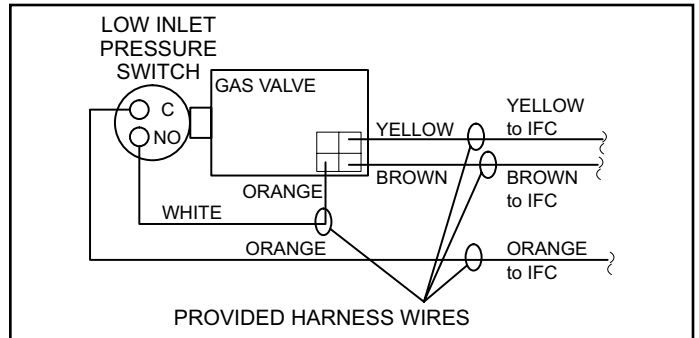

Figure 13. Low Inlet Pressure Switch Point-to-Point Wiring Diagram (Resideo Gas Valve)
b. Connect the low inlet pressure switch in series between the adapter harness and the unit harness (IFC). Wire as shown in Figure 13.